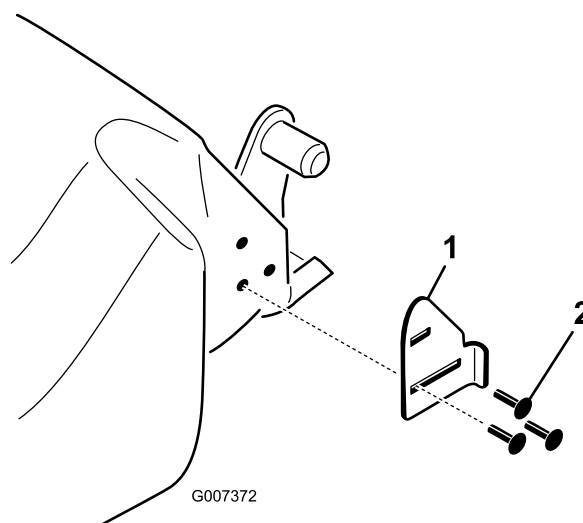

Figure 4
5. Remove the carriage bolts and nuts securing the basket brackets to the outer sides of the #6 and #7 cutting unit baskets (Figure 4).